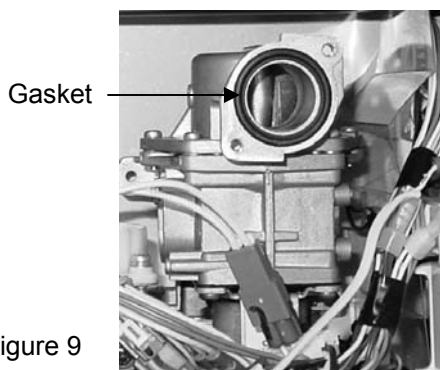

Figure 9 Gasket
26. Make sure that the black gasket (Figure 9) is intact on the gas control assembly. Make sure that the ribbed side faces toward the manifold and that the flat side faces toward the gas valve. Replace the lower and upper gaskets (included in kit) for the manifold plate removing any residue. (Figure 10)